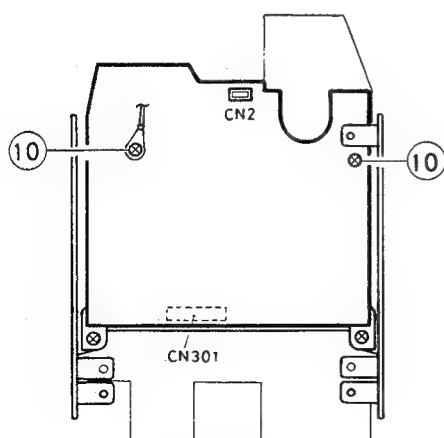

Fig. 7-6
■ Tuner board (VMW2326) (Fig. 7-6)
1. Remove two screws ⑩ retaining the tuner board from the both sides of the chassis.